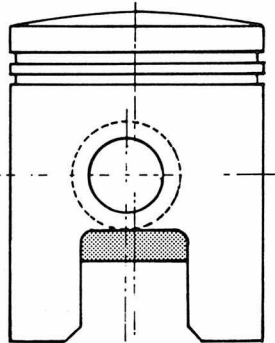

Fig. BST 2-3—The shaded section shown should be removed up to the piston pin boss. Be sure edges are rounded.
**PISTON, CYLINDER AND HEAD.** The piston reliefs shown in shaded section (Fig. BST 2-3) should be removed up to the bottom of piston pin boss. Be sure to round corners to prevent breakage. Cylinder head can be milled 0.8 MM (0.03 inch) to increase compression. When assembling, make certain that piston does not contact cylinder head.